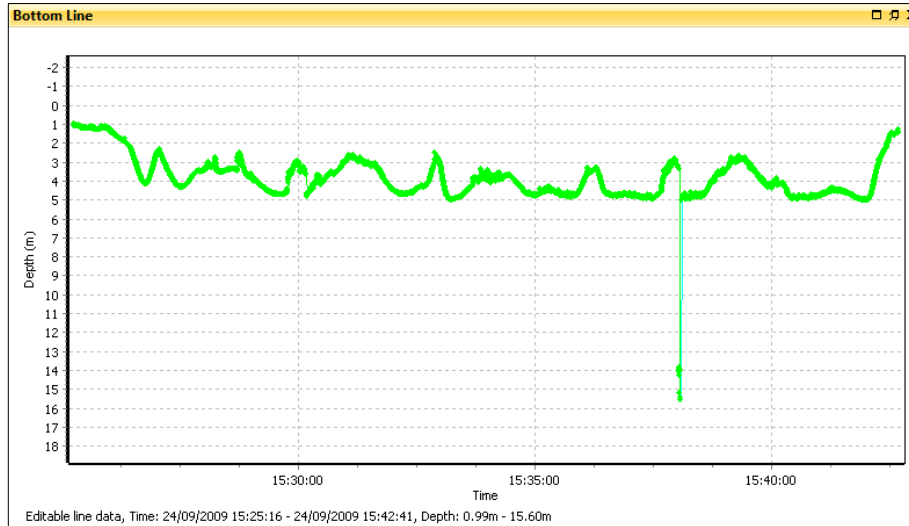

Figure 6. Line graph for Bottom line shows an estimated average depth of 3.5 meters.
23. Display a line graph of **Bottom line**. Double-click the dataflow object, or on the **Shortcut** (right-click) menu, click **Graph** (Figure 6). Estimate the average depth of the line: approximately 3.5 meters (this number does not need to be precise).